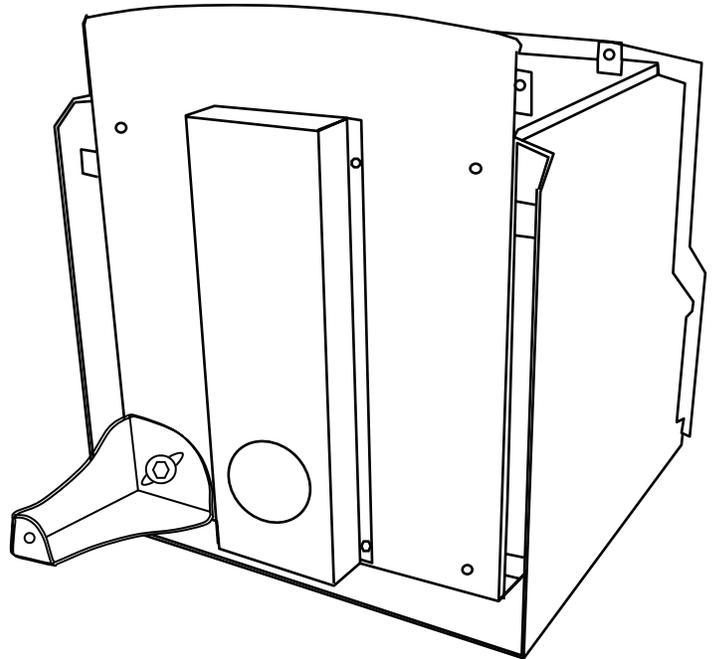

Figure 1
Step 2: Position one leg at each corner using the supplied bolts and washers to fasten. Firmly tighten each bolt, do not over tighten. (See Figure 1)